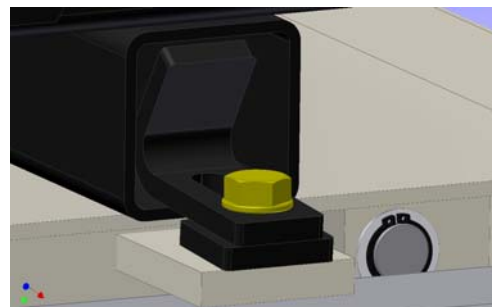

Figure 8
4. Slide the mounting clamps fully into the square tubes of the Shop-Hopper and tighten with a 30mm wrench (see Figure 8)